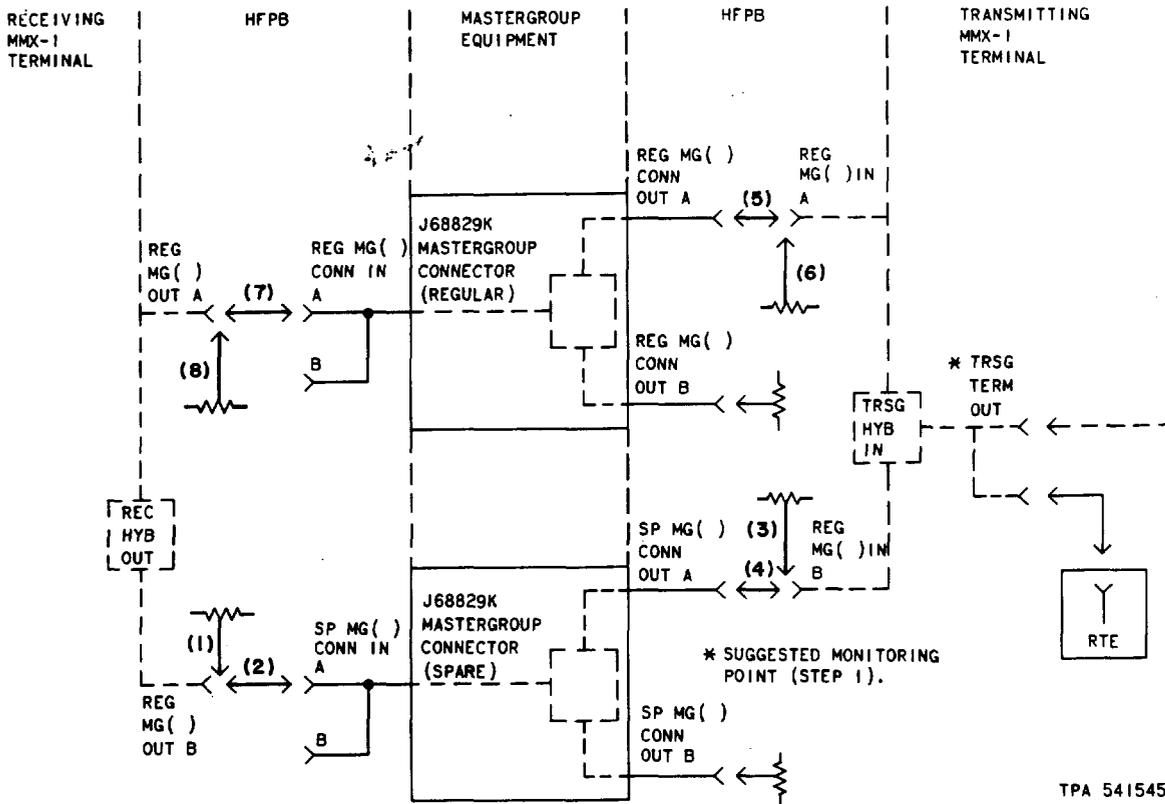

Fig. 1—Removing Regular Equipment From Service—Patching Procedure
5	<p>At the transmitting and receiving high-frequency patch bays (HFPPB), locate the jacks associated with the regular and spare equipment to be patched. At the receiving MG-HFPPB,</p> <ul style="list-style-type: none"> (a) Remove the 358B plug (75-ohm termination) from the REG MG() OUT B jack [patch (1), Fig. 1]. (b) Insert a 372A plug (through connection) into the REG MG() OUT B and SP MG() CONN IN A jacks [patch (2), Fig. 1].
6	<p>At the transmitting MG-HFPPB,</p> <ul style="list-style-type: none"> (a) Remove the 358B plug from the REG MG() IN B jack [patch (3), Fig. 1]. (b) Insert a 372A plug into the REG MG() IN B and SP MG() CONN OUT A jacks [patch (4), Fig. 1].
8	<p>At the transmitting MG-HFPPB,</p> <ul style="list-style-type: none"> (a) Remove the 372A plug from the REG MG() IN A and REG MG() CONN OUT A jacks [patch (5), Fig. 1]. (b) Insert a 358B plug into the REG MG() IN A jack [patch (6), Fig. 1].
9	<p>At the receiving MG-HFPPB,</p> <ul style="list-style-type: none"> (a) Remove the 372A plug from the REG MG() CONN IN A and REG MG() OUT A jacks [patch (7), Fig. 1]. (b) Insert a 358B plug into the REG MG() OUT A jack [patch (8), Fig. 1].